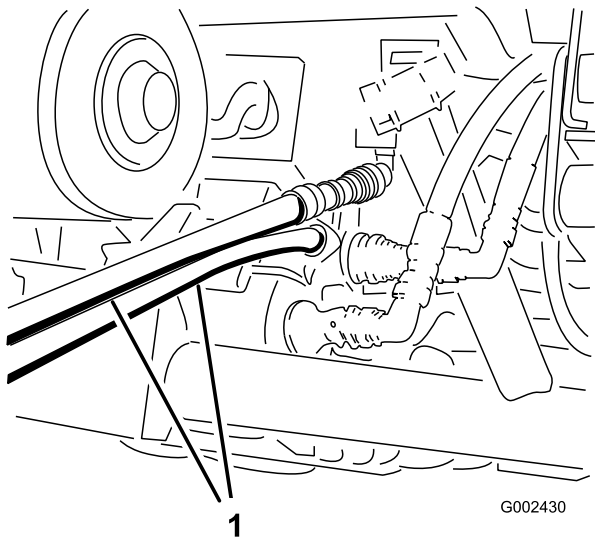

Figure 94
4. On the other vehicle, connect the 2 hoses to the coupler still in the coupler bracket (connect the top hose to the top coupler and the bottom hose to the bottom coupler) (Figure 94).